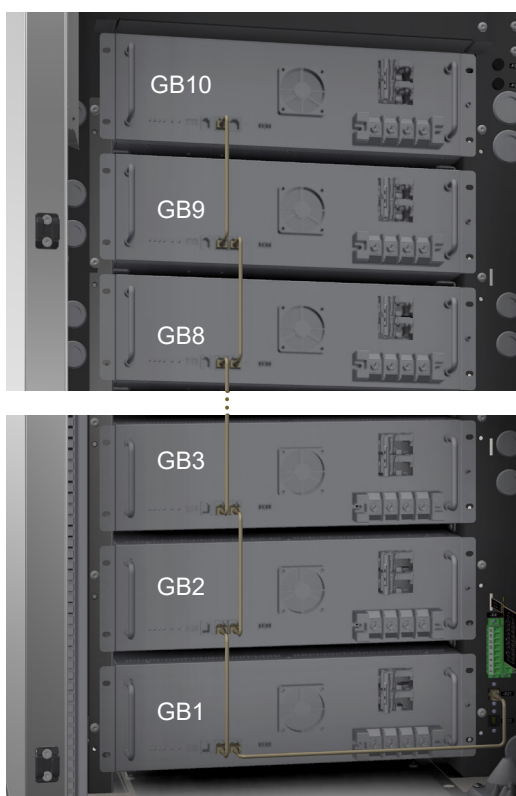

Figure 4.28 Battery communication cables
1. Connect each battery module to those adjacent to it using an intra-rack RJ45 communication cable. For connection use Modbus ports on batteries (see *Figure 4.28*).
2. Interconnect connector -X21 with the bottom battery Modbus port using attached RJ45 communication cable (see *Figure 4.28*).